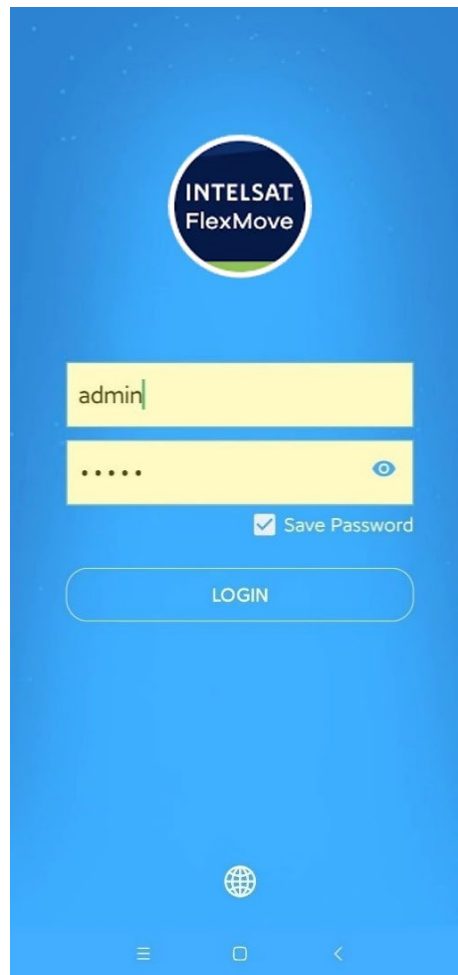

**Figure 7-1**
1. Select the language to use according to the APP prompt (when first using) or the language selection button on the login interface, as shown in Figure 7-1 and Figure 7-2.